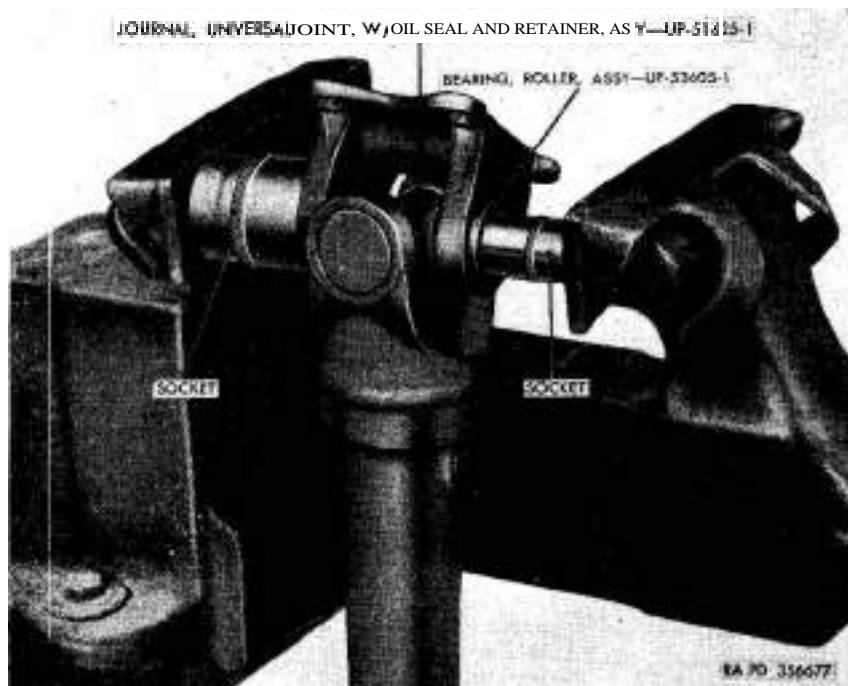

Figure 144. Removing roller bearing assembly from universal joint.
- (a) Position a $1\frac{1}{4}$ -inch heavy-duty socket over roller bearing assembly (F) and a $\frac{1}{2}$ -inch socket over roller bearing assembly (Y). Force roller bearing assembly (F) from the flange yoke (BB) with a vise (fig. 144) or an arbor press. Watch the position of journal (J) as bearing assembly is forced from the yoke because the opposite bearing oil seal retainers (H and AA) will be damaged if they contact the splined yoke or propeller shaft tube yoke ends.